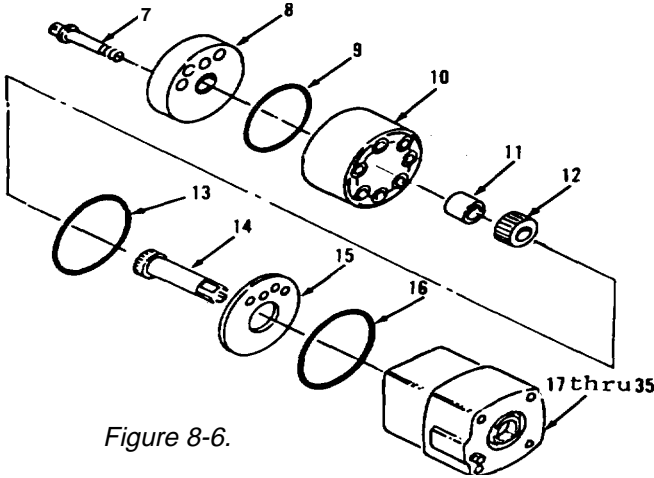
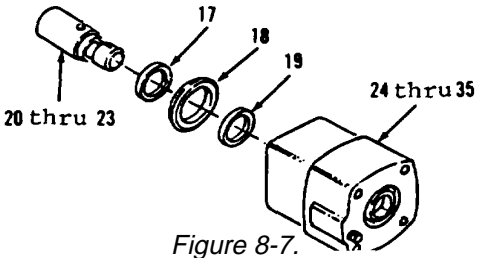

Figure 8-6.
Figure 8-7.
3. Remove seven bolts (7), cap (8) and preformed packing (9) from items 17 thru 35 as an assembly (Figure 8-6). Discard preformed packing (9).
4. Remove gerotor (10), spacer (11), inner gear (12), preformed packing (13), drive (14), spacer (15) and preformed packing (16). Discard preformed packings (13 and 16).
5. Remove items 20 thru 23 as an assembly, race (17), bearing (18) and race (19) from items 24 thru 35 as an assembly (Figure 8-7).